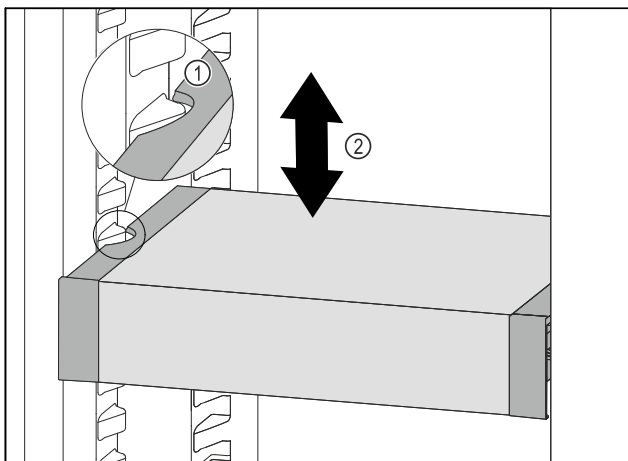

Fig. 179
- Pull VarioSafe forwards until the recesses in the side of the VarioSafe are at the level of the support rib in the refrigerator compartment. Fig. 179 (1)
- Move VarioSafe up or down in the refrigerator compartment until the desired height is reached. Fig. 179 (2)